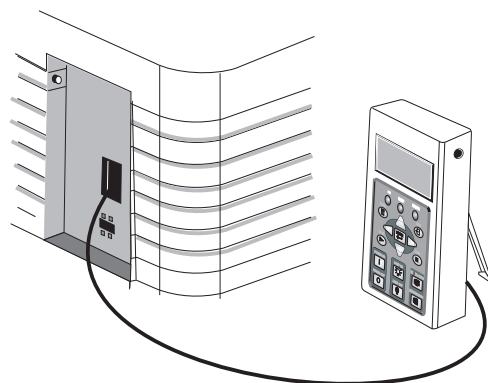

Figure 2-4 CDP Mounting
2. When installing the CDP in a new location, be sure to keep the distance between the projector and the CDP within 6 ft (the max. length of the standard CDP harness). See **Figure 2-4**.